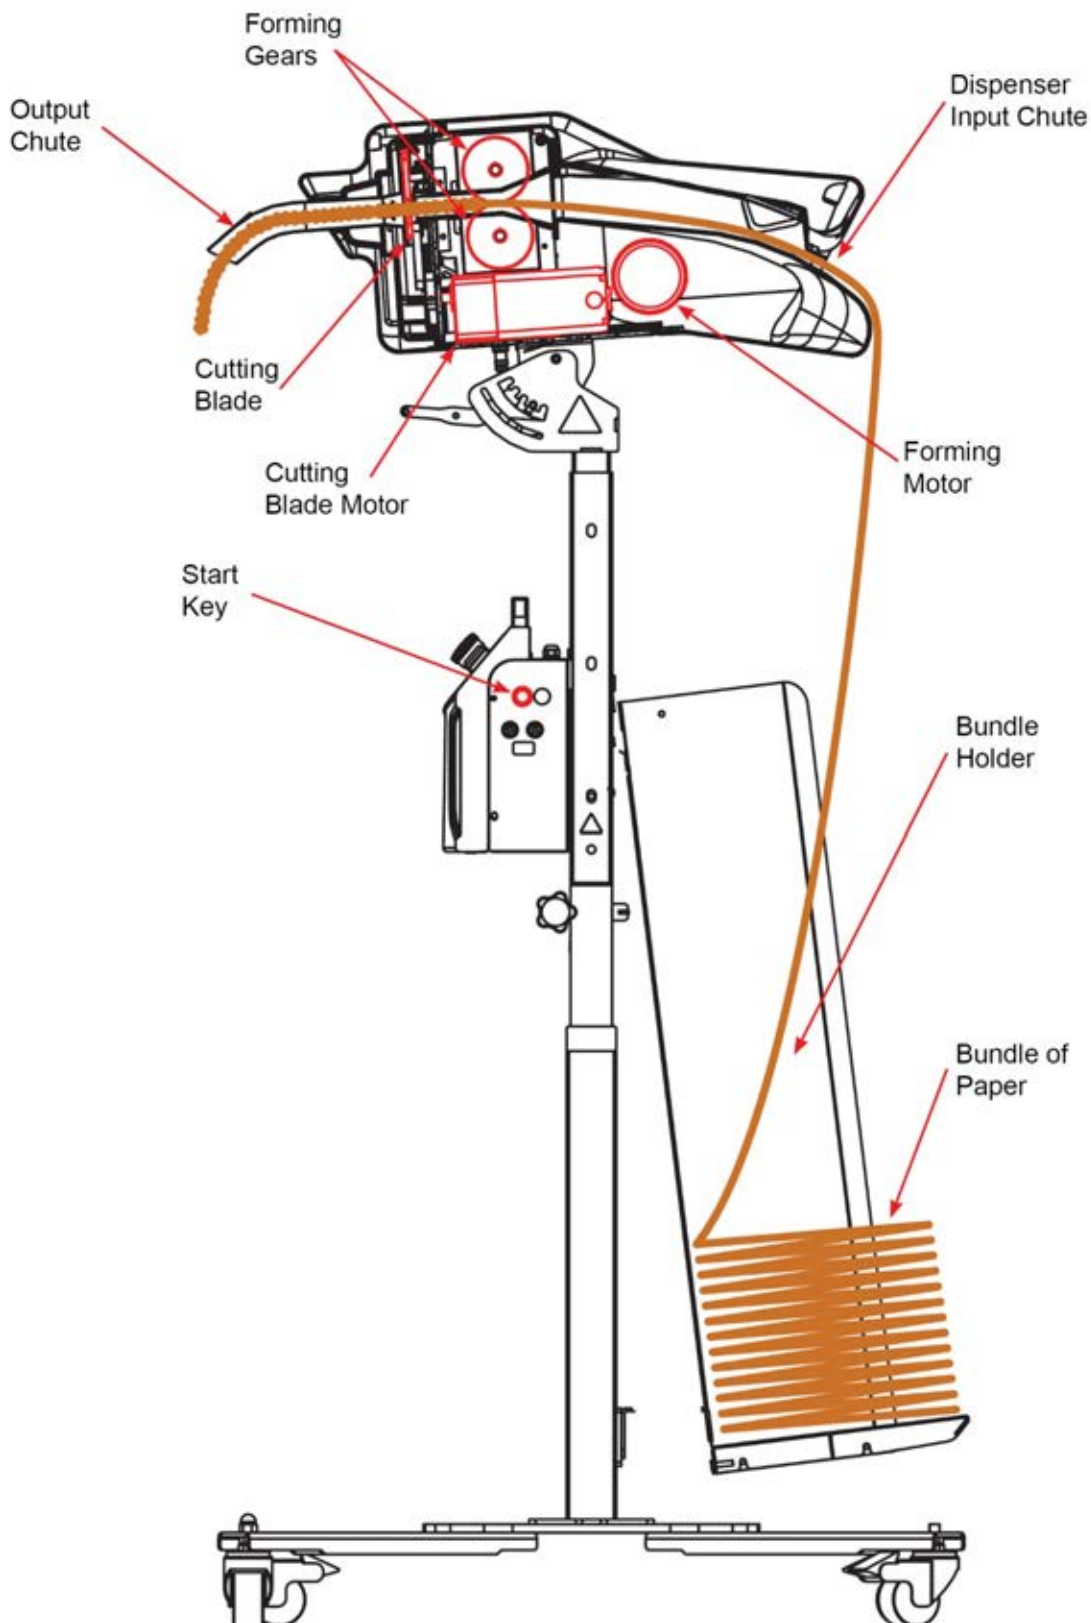

Figure 13 Paper Path
7. Place the **Paper Bundel** in the **Bundle Holder** (refer to Figure 13).
10. Insert the folded arrow of paper sheets into the **Dispenser Input Chute** (refer to Figure 13).
11. Push the folded arrow of paper sheets towards the **Dispenser Feeding Wheels** (refer to Figure 13).
14. Release the **Feed-in Button** on the **Dispenser Control Box** as soon as the string of paper void fill is visible at the **Dispenser Output Chute** (refer to Figure 13).